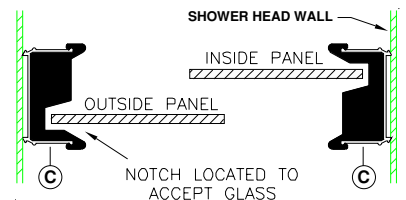

figure 7
Slide outside Door Panel into Wall Jamb located on wall **opposite of shower head** as shown in figure 7. Check Panel to make sure that it is parallel to the Wall Jamb. If it is not, remove the Door Panel and adjust the rollers either up or down by loosening the Rollers Screws and sliding the Rollers. When satisfied with outside Door Panel alignment, proceed with inside Door Panel installation.
When satisfied, slide inside Door Panel into Wall Jamb located on **shower head wall** (see figure 7) and check for alignment with Wall Jamb. Adjust Rollers as necessary.
10. Attach Jamb Bumpers (F) to Wall Jamb using an 834P Installation Screw (G). Please note that notches on bumpers are positioned so as to accept glass insertion, see figure 7.